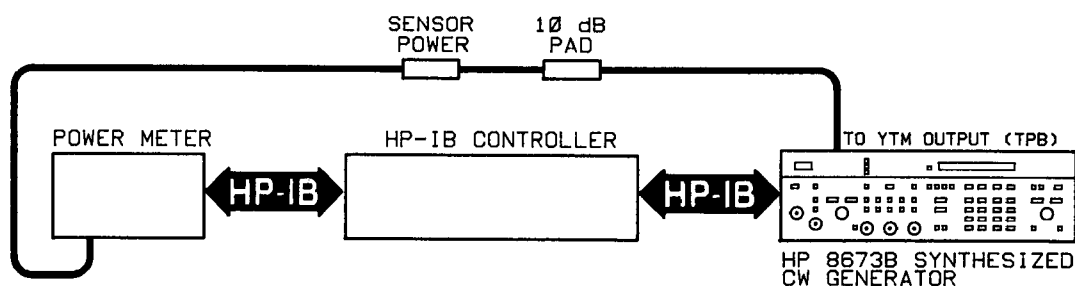

Figure 8-33. YTM Power Output Power Check Test Setup
6. To measure power at TPB, connect the equipment as shown in figure 8-33.